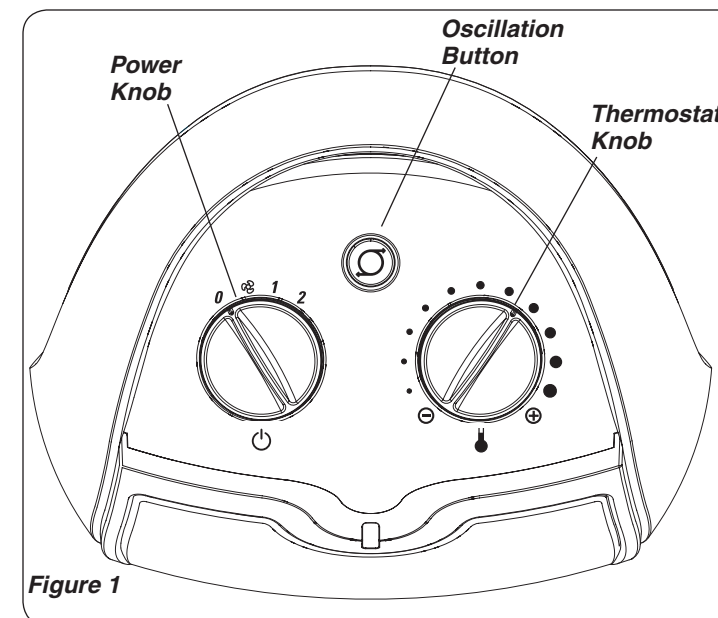

Figure 1
**CONSERVE ESTAS INSTRUCCIONES****MODEL 5429****OPERATION (Figure 1)**
- Make certain the Heater Power Knob is in the OFF (0) position before plugging unit into an outlet.